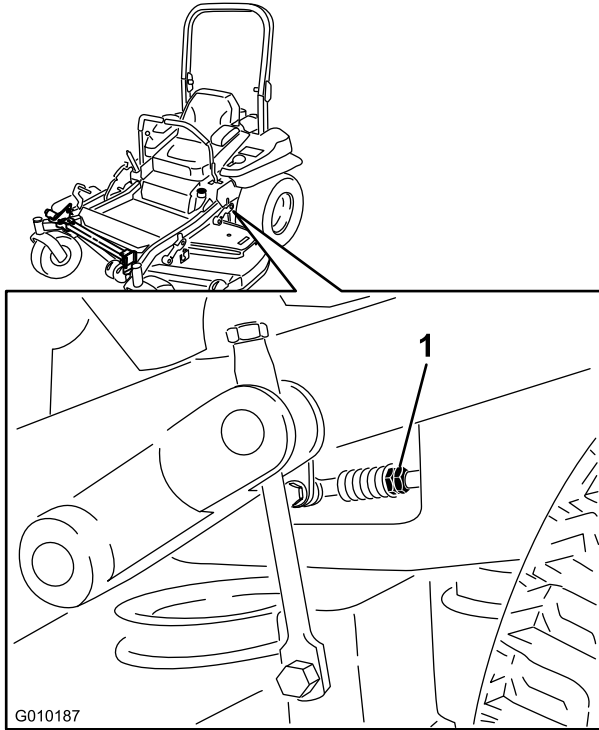

Figure 78
- Adjust the pump control rod lengths by rotating the double nuts on the rod in the appropriate direction until the wheels slightly creep in reverse (Figure 78).